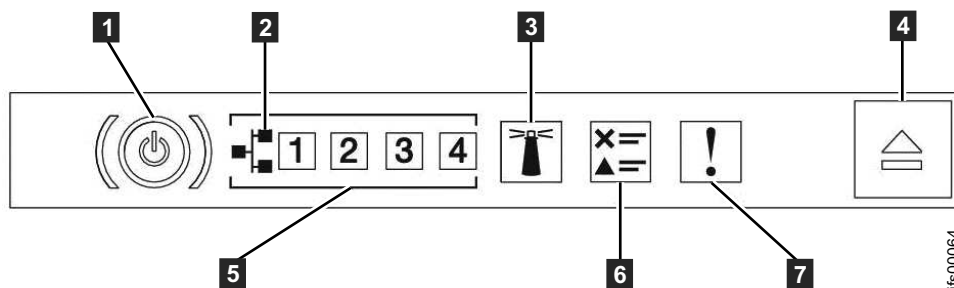

Figure 44. SAN Volume Controller 2145-DH8 operator-information panel
1. Is the System error LED **7**, shown in Figure 44 on page 302, on the SAN Volume Controller 2145-DH8 operator-information panel on or flashing?